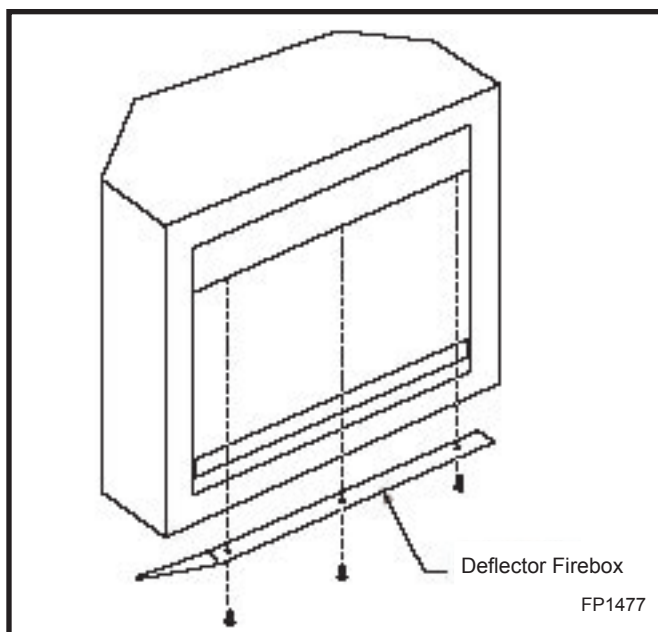

Fig. 22 Remove deflector firebox.
4. Remove the deflector firebox by removing the three (3) screws securing it to the firebox top. (Fig. 22)